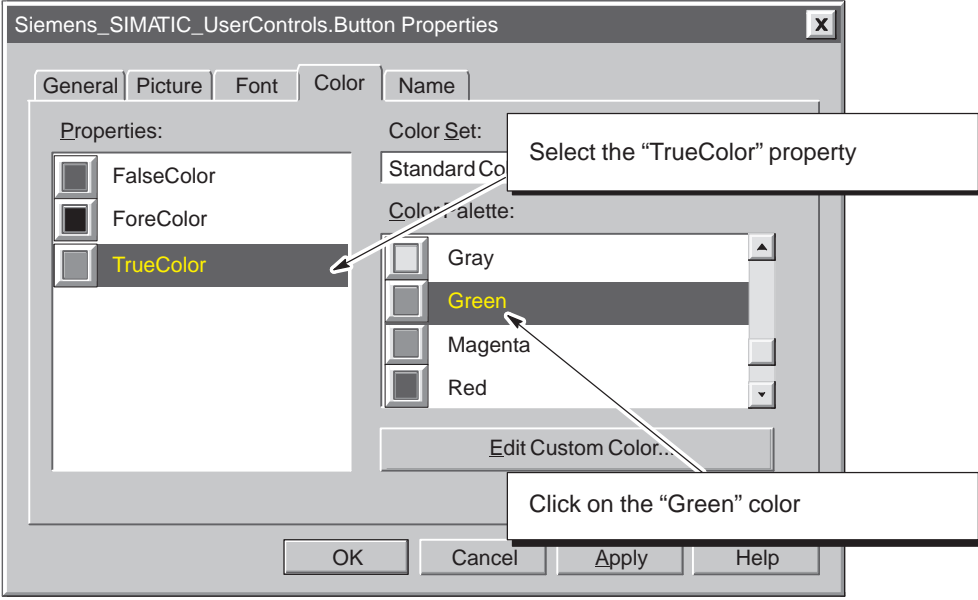

Figure 3-26 Configuring the True Color for Button2 (Button control 2)
- 9. Select (click on) TrueColor in the "Properties" box and click on the color Green in the "Color Palette" box. See Figure 3-26.